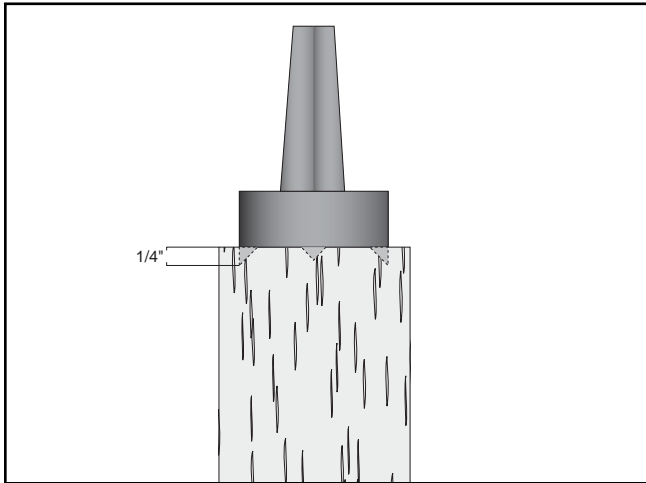

Figure 6B. Spur center set into wood stock.
3. Hold the spindle vertically and support it on a solid surface. Line up the spur center with the center of the workpiece. Drive the spur center into the stock about 1/4" using a dead blow hammer. Be careful not to split the workpiece. See **Figure 6B**. Wood with splits along the grain may fly off during the operation. With dense wood, drill a hole at the centers and score lines with a saw blade for the spur.